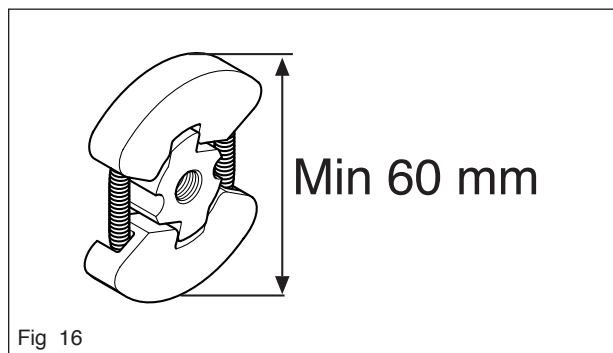

Fig 16
- Check the thickness of the clutch shoes by using vernier callipers to measure the diameter of the clutch. If the diameter is less than 60 mm the clutch assembly must be replaced (see figure 16).